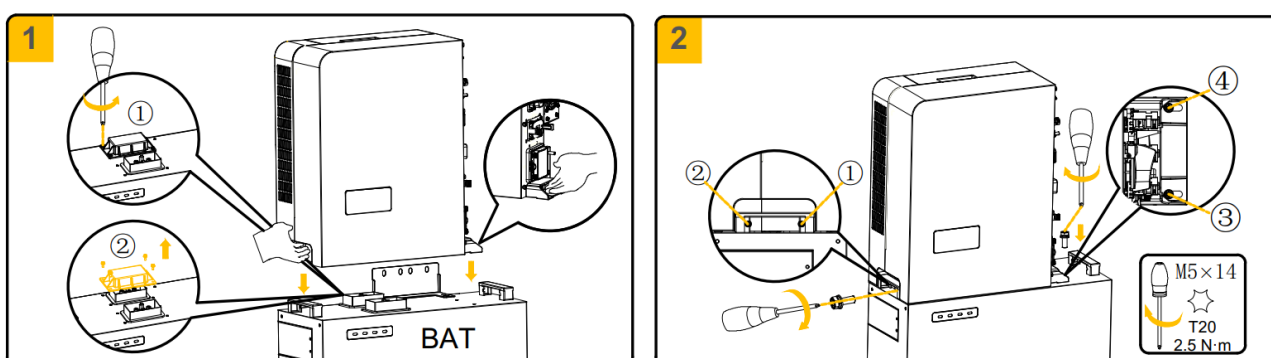

Figure 5-8 Inverter installation diagram
1. Before inverter stacking, please remove the behind cover of the SMILE-M-BAT-13.9P which is right under the inverter. (tool: T20 screwdriver). Refer to 1 in Figure 5-8
2. Place the inverter onto the battery and tighten the left and right screws (two screws for each side). (tool: T20 screwdriver, torque: 2.5 N·m). Refer to 2 in Figure 5-8.